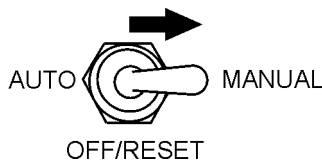

Figure 63. Auto-Off/Reset Switch
2. While keeping the **Hour Check Button** pressed, place the **Auto Off/Reset Manual Switch** (Figure 63) in the **MANUAL** position.